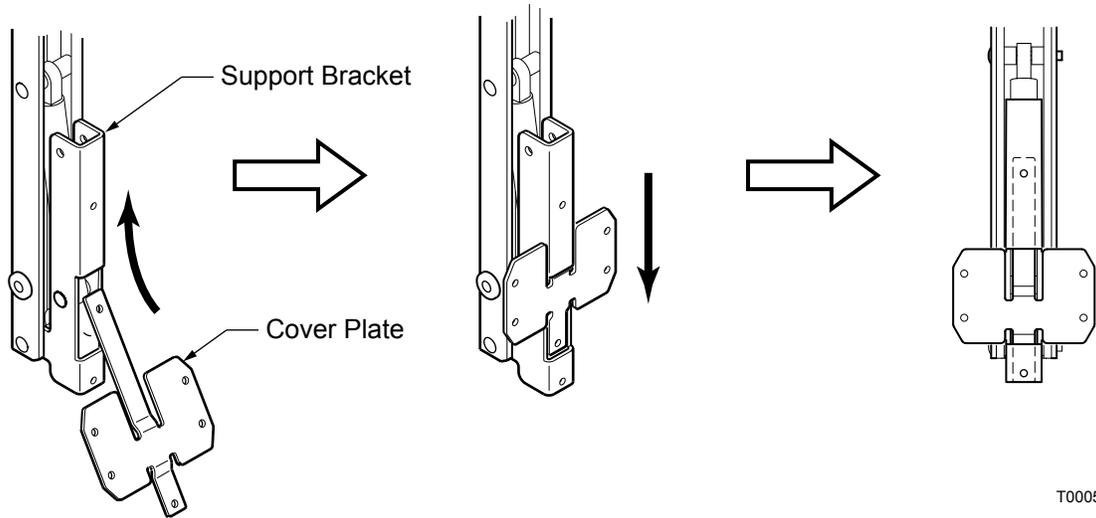

Figure 4. Installing the Cover Plate.
1. (Refer to Figure 4) On the motorized arm, Insert the cover plate into the support bracket through the hole in the back of the bracket as shown in figure . The plate will sit loosely inside the bracket.